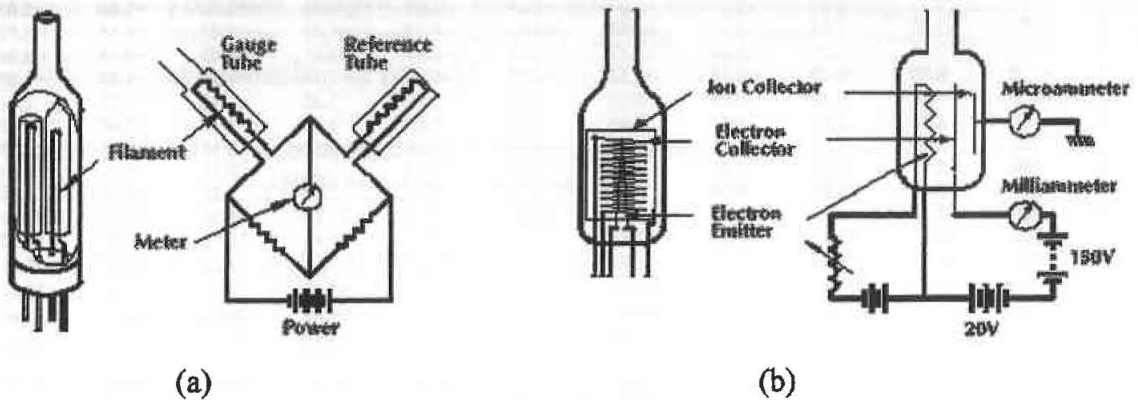

Figure 1 (Rajah 1)
- (a) Identify the pressure sensors in Figure 1 and explain each of the sensors